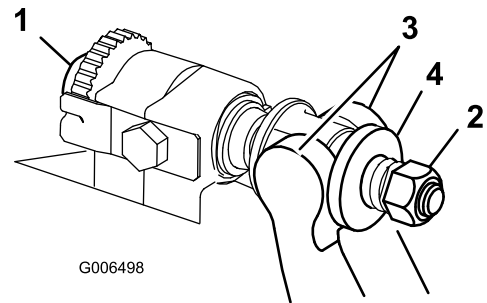

Figure 36
1. Turn the bedbar-adjusting screws counterclockwise to back the bedknife away from the reel (Figure 36).
2. Back out the spring-tension nut until the washer is no longer tensioned against the bedbar (Figure 36).